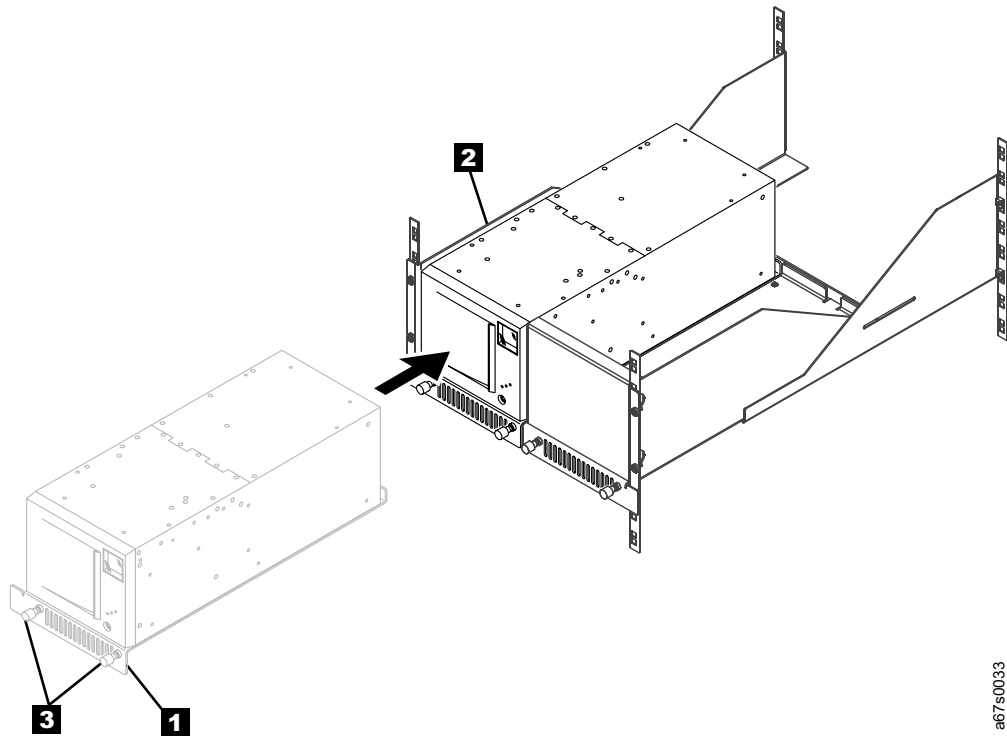

Figure 44. Installing the sled onto the rackmount tray
1. Slide the sled (**1** in Figure 44) into position on the rackmount tray **2** .